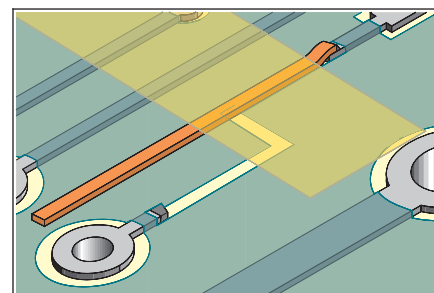

Figure 2 Place the new foil jumper in position, hold in place with tape conductor.
11. If the conductor foil jumper is long or has bends, one end may be soldered prior to forming the new shape. Place the foil jumper in position. The foil jumper should overlap the existing conductor a minimum of 2 times the conductor width. The jumper may be held in place with Polyimide tape. (See Figure 2.)